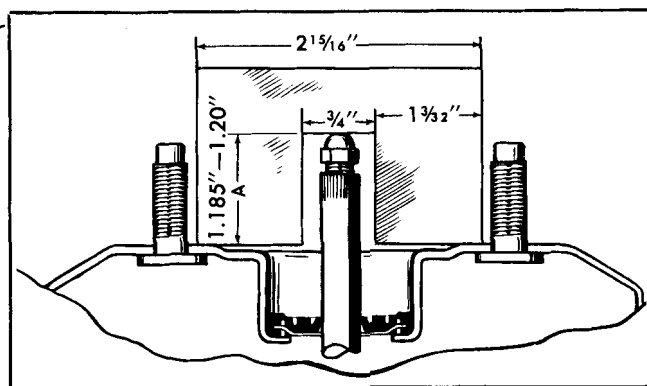

Fig. 5C-15 Gaging Push Rod Length
2. Before mounting master cylinder, check distance A (Fig. 5C-15) from hydraulic push rod to master cylinder mounting face on front shell. This dimension A, as shown in Figure 5C-15, should be 1.200". If push rod length is not correct, follow adjustment procedure below.